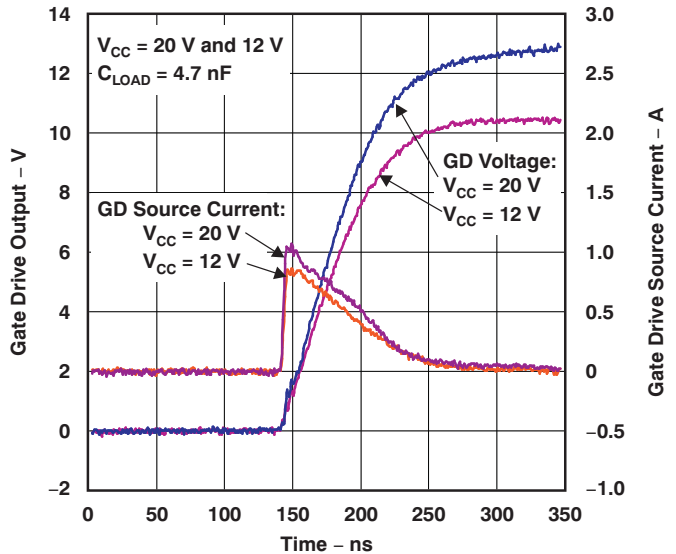
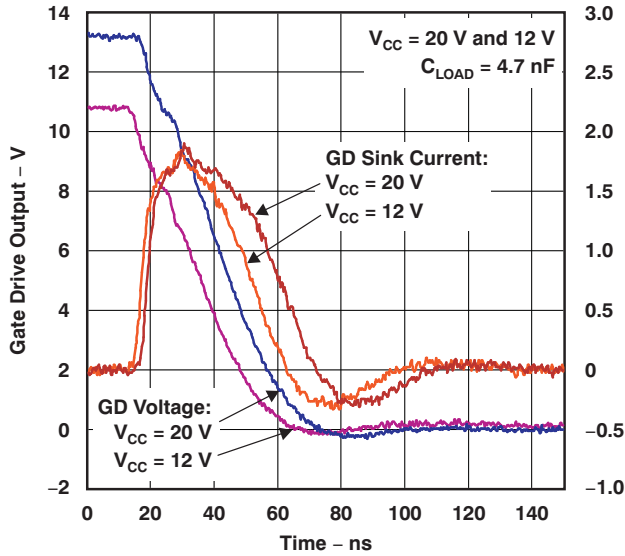
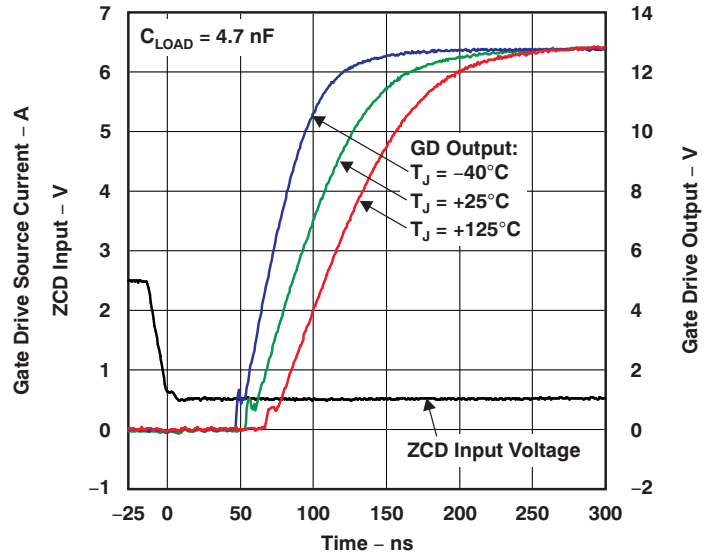

Figure 12.
Figure 13.
Figure 14.
(2) Refer to Figure 12, Figure 13, Figure 14, and Figure 15 in the Typical Characteristics for typical gate drive waveforms.